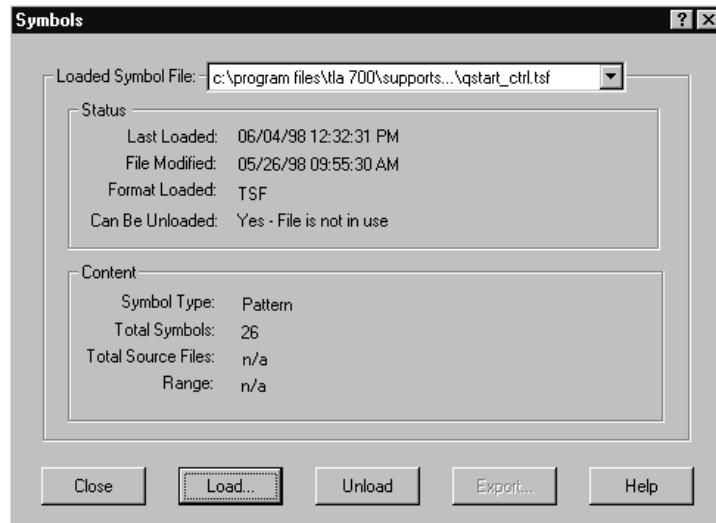

Figure 4-14: Symbols dialog box
1. Select Symbols from the System menu. The Symbols dialog box appears (Figure 4-14).